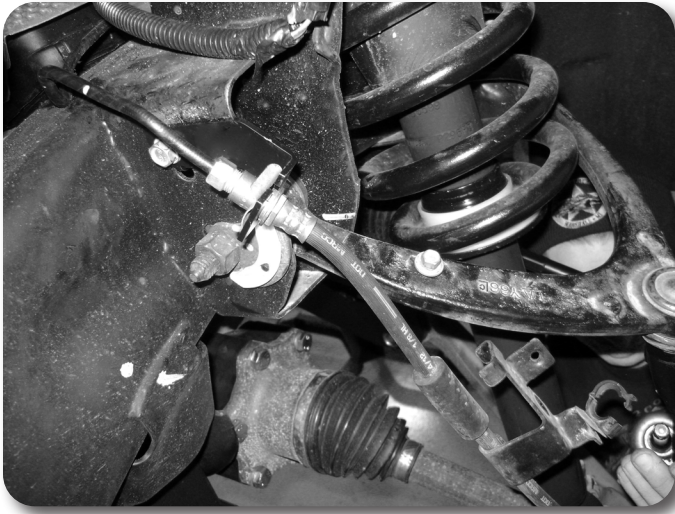

Figure 36
72. Attach the provided brake line bracket to the upper control arm mount using the original bolt. **Figure 36** Leave hardware loose.